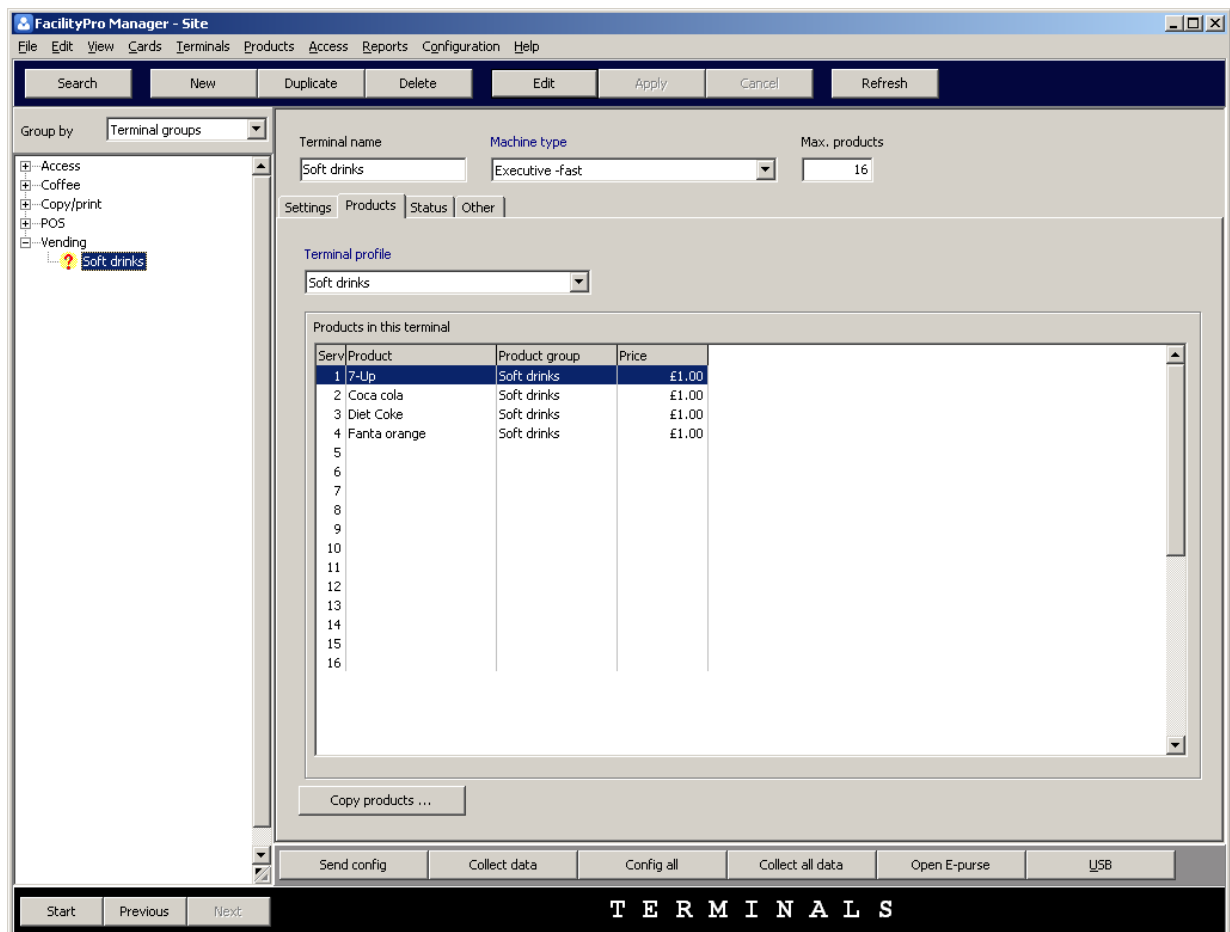

Figure 4-3 The tab 'Products' of the terminal data screen for sites with terminal profiles
5. Click the tab 'Products'. You will see the tab 'Products' (Figure 4-3).